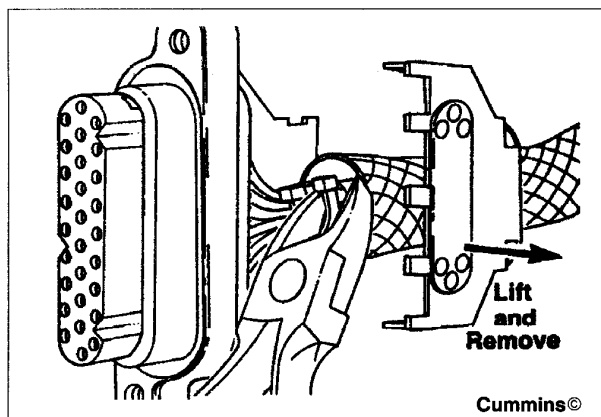

Figure 67 Cut Plastic Wire Ties
2. Pull the locking tabs apart on the cover. Remove the cover from the connector. Cut the plastic wire ties under the cover (Figure 67).